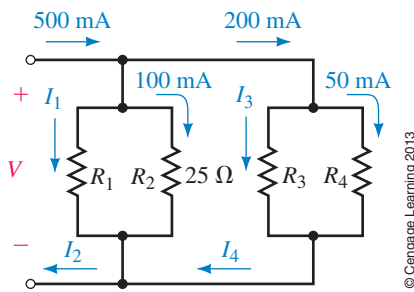

FIGURE 6-52
9. Refer to the network of Figure 6-52: